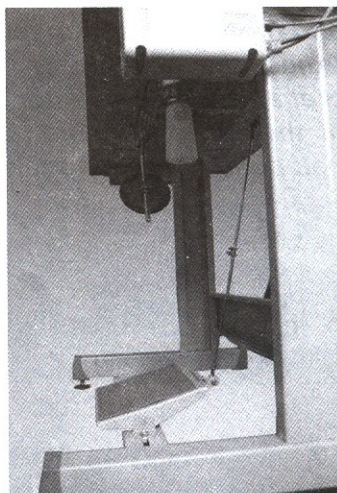

Figure 12
C. Installation of speed pedal (Figure 12)